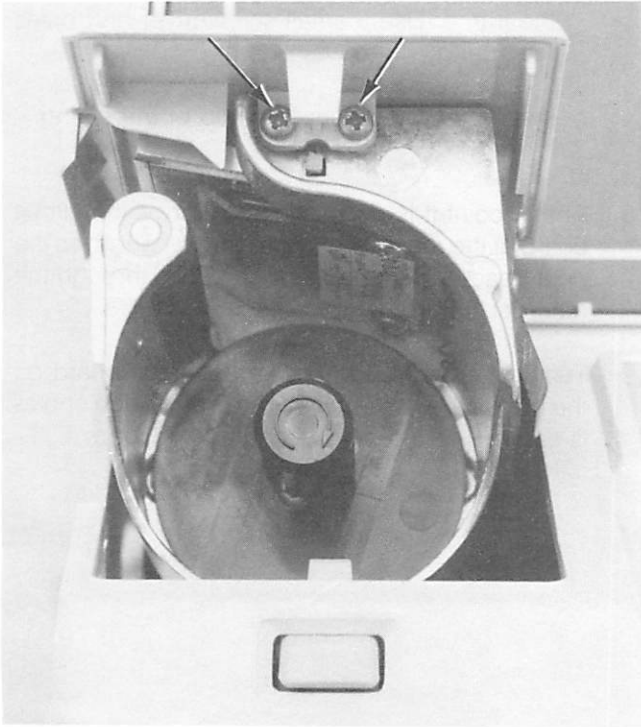

Figure 4-13.
3. Remove the paper roll and the two screws that secure the lid. See Figure 4-13. Lift the front of the cover up and slide it to the rear to remove.